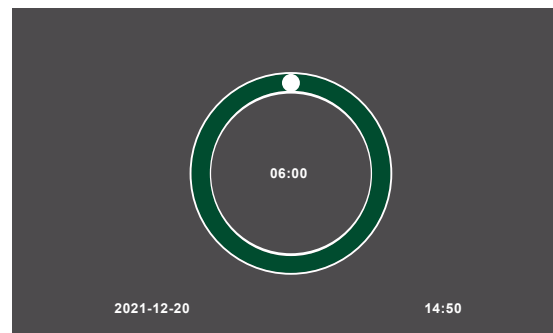

Figure 20. Measurement Timer screen
- The Labmaster LUCIA™ Analyzer will automatically proceed to the measurement stage. The tray will move in and the Measurement Timer screen in Figure 20 will appear.